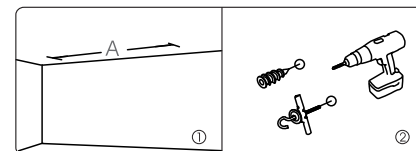

Figure 13
- 1.Drill two identical holes with an electrical drill and ensure it is horizontal with the Wall. Fasten hangers (not provided) into the ceiling (figure 13).